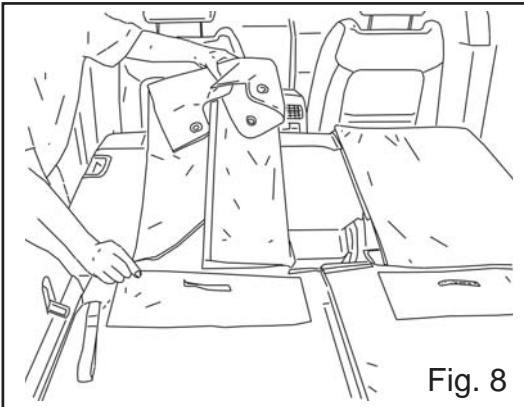
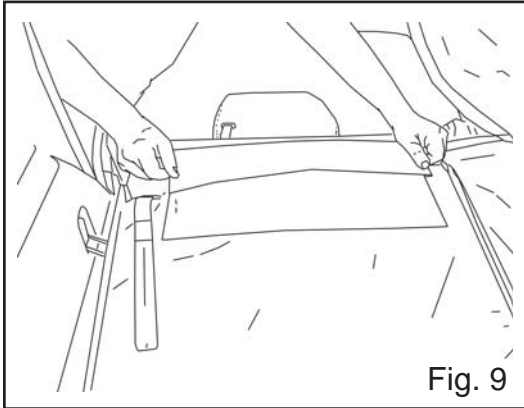

Fig. 8
Fig. 9
- 7 If 3rd row seats are to be used, fold 2nd row covers and place in the attached pockets. (Fig. 8 and Fig. 9)